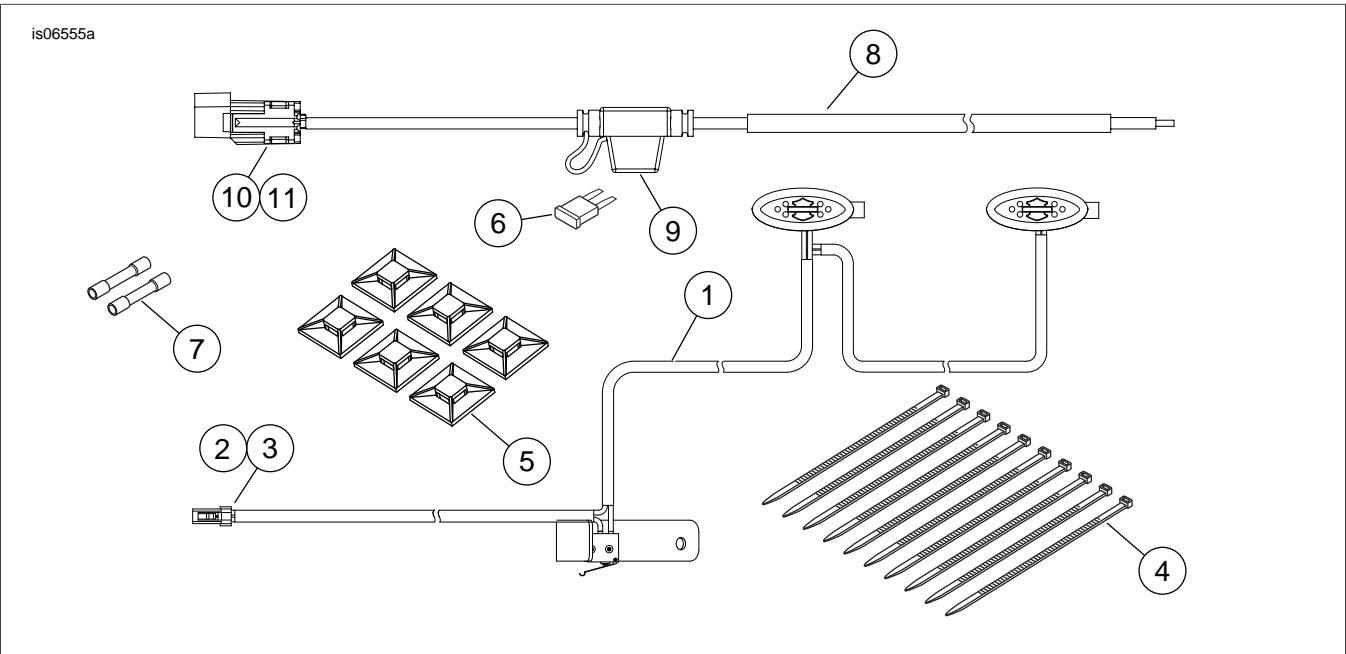

Figure 7. Service Parts, Trike Trunk Interior Light Kit
See Figure 7 and Table 1.
8. See Figure 7. Install a wire clip (5) as needed under the trunk light wire harness inside the trunk. Secure the harness to the wire clip with a cable strap (4). Repeat step as necessary until the harness is secure.
- a. See the service manual to remove the 2-way socket housing (Figure 7, Item 2) from the trunk light harness.
- g. See the service manual. Use a sealed splice connector (Figure 7, item 7) to splice the license plate harness black wire to the trunk light harness black wire.
- b. See Figure 7 and the service manual. Connect the power harness (8) to the B+ connector [160B] in the area under the seat.
- d. See the service manual to remove the 2-way socket housing (Figure 7, Item 2) from the trunk light harness.
- i. See the service manual. Use a sealed splice connector (Figure 7, item 7) to splice the red wire of the trunk light harness to the power harness (8) wire. Use the remaining sealed splice connector (7) to splice the license plate harness black wire to the trunk light harness black wire.
- k. Install the 2 Amp fuse (6) into the inline fuse holder of the power harness.